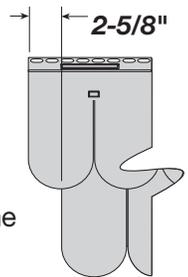

FIGURE 2
1) Remove 2-5/8" from the left side of the upper panel course, leaving a 90° left side edge, as shown in figure 2.